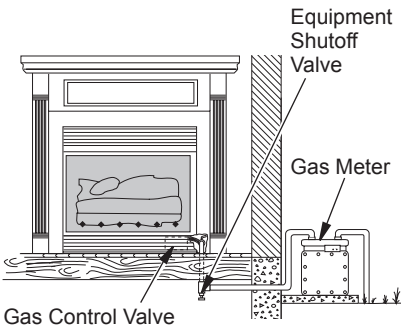

Figure 22 - Checking Gas Joints for Natural Gas
3. Check all joints from gas meter to equipment shutoff valve for natural gas or propane/LP supply to equipment shutoff valve for propane/LP (see Figures 22 and 23). Apply noncorrosive leak detection fluid to all joints. Bubbles forming show a leak.
4. Check all joints from equipment shutoff valve to gas control valve (see Figures 22 or 23). Apply noncorrosive leak detection fluid to all joints. Bubbles forming show a leak.